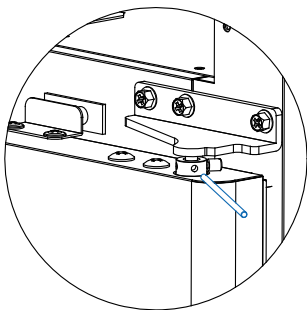

Fig 8-39
1. Remove the front top grill and shaft cap. Insert the steel stick between the shaft holes. (Fig 8-39)